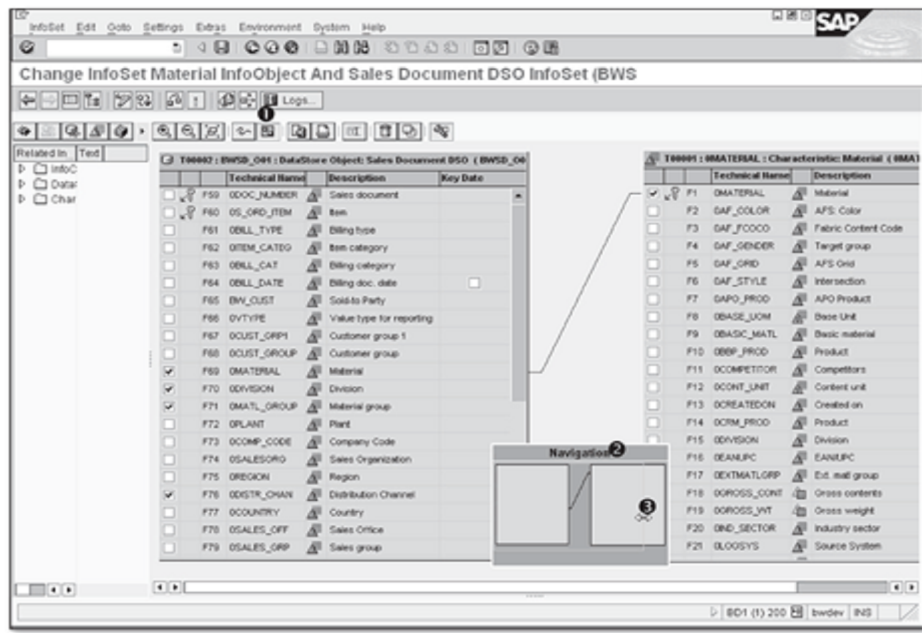
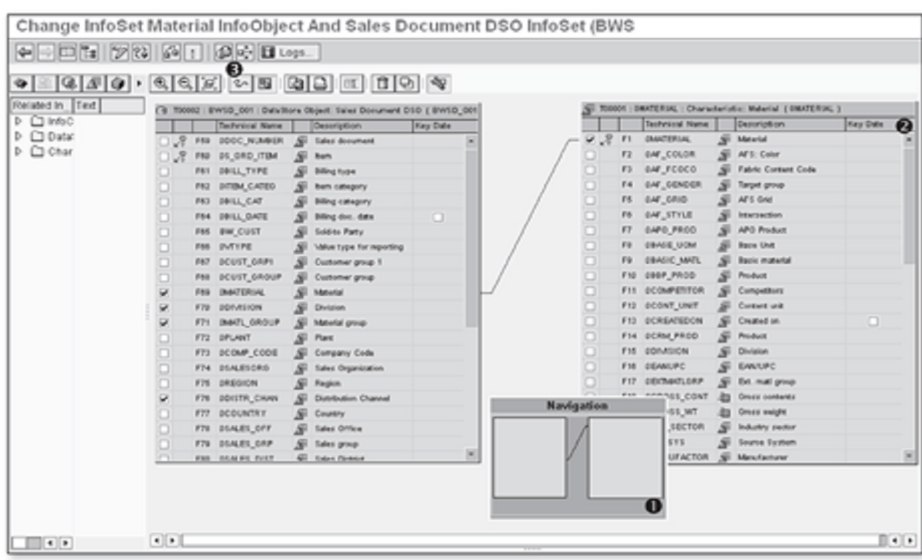
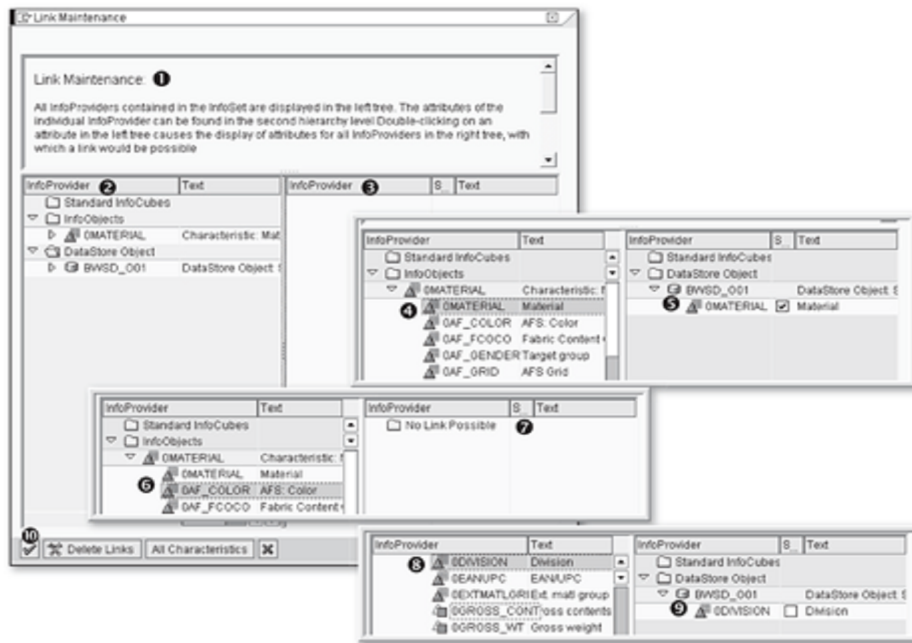

Figure 6.29 Using the Navigator Function
Figure 6.30 Result of Using the Navigator
Figure 6.31 Link Maintenance
When you're in the InfoSet change screen, sometimes all of the source objects aren't 100% visible because all may not fit within one screen. As shown in Figure 6.29, the rightmost column (e.g., Key Date) isn't visible in the screen. There are three ways in which you can adjust this viewing.
The third way is to use the Navigator function. Click on the Show/Hide Navigator icon  as shown in ❶ of Figure 6.29. The result is that SAP NetWeaver BW adds a small box titled Navigation (❷).
Use the icon , as shown in ❸ of Figure 6.29, to drag the line and drop it at the rightmost side of the Navigation box. The resulting screen is shown in ❶ of Figure 6.30. The effect of this change in the Navigation box on the main screen is shown in ❷ of the Figure 6.30. All of the columns of source object T00001 are now visible properly.
An alternative way to maintain the join is by using Link Maintenance. Click on the Link Maintenance icon  as shown in 3 of Figure 6.30. The pop-up box titled Link Maintenance appears (Figure 6.31).
A brief description regarding the functionality of link maintenance is shown in 1 of Figure 6.31. A list of the included InfoProviders in the definition of the InfoSet is also given (2). The right side panel is initially empty (3).